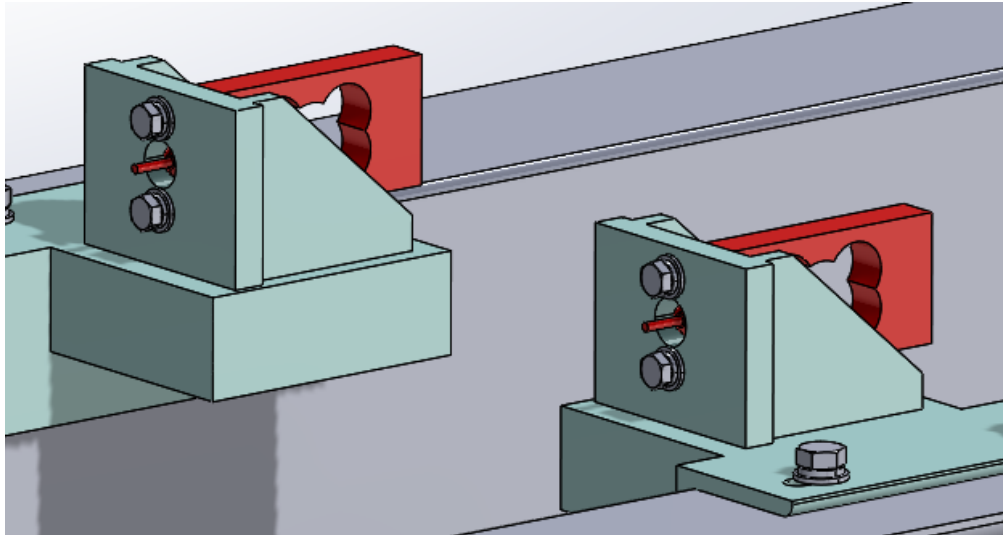

Figure 13: Load Cell Installation
3. Align the load cells with the L-brackets and secure using **M12×35 bolts** with spring washer and flat washers. See Figure 13 for details.